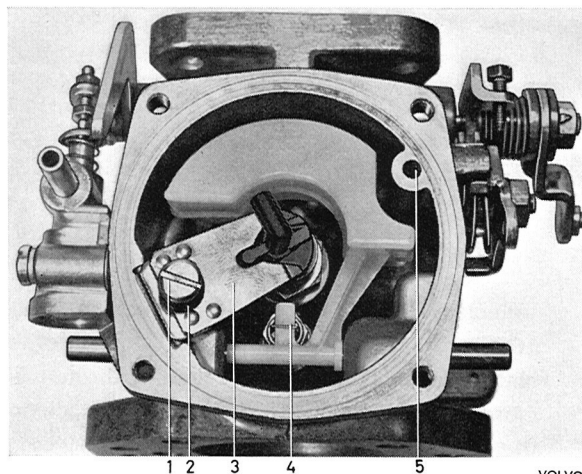

Fig. 2-135. Float chamber
Note when installing that the float valve retainer should hook round the float tab (Fig. 2-135).
2. Remove the float chamber cover. Remove the screw (1, Fig. 2-135) and lift the bi-metal spring out with the jet.